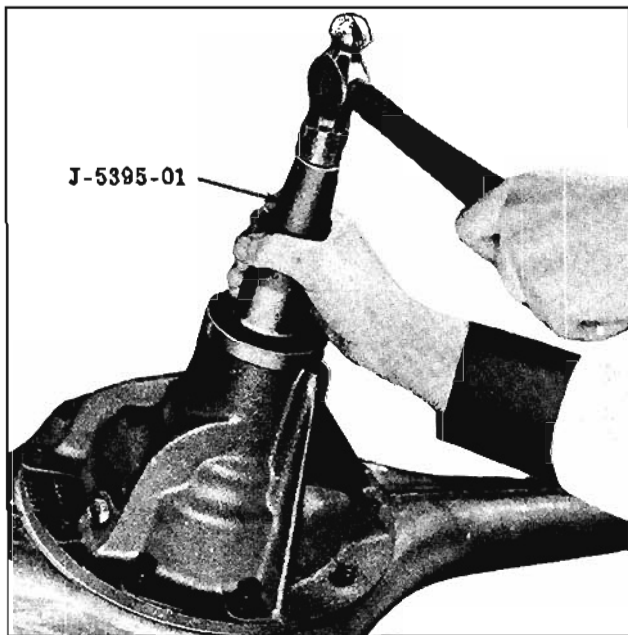

Fig. 10-10 Installing Pinion Oil Seal
8. Coat outside diameter of new seal sparingly with sealer, Part No. 557622 and install seal using Driver J-5395-01 to properly locate seal in carrier. (Fig. 10-10)